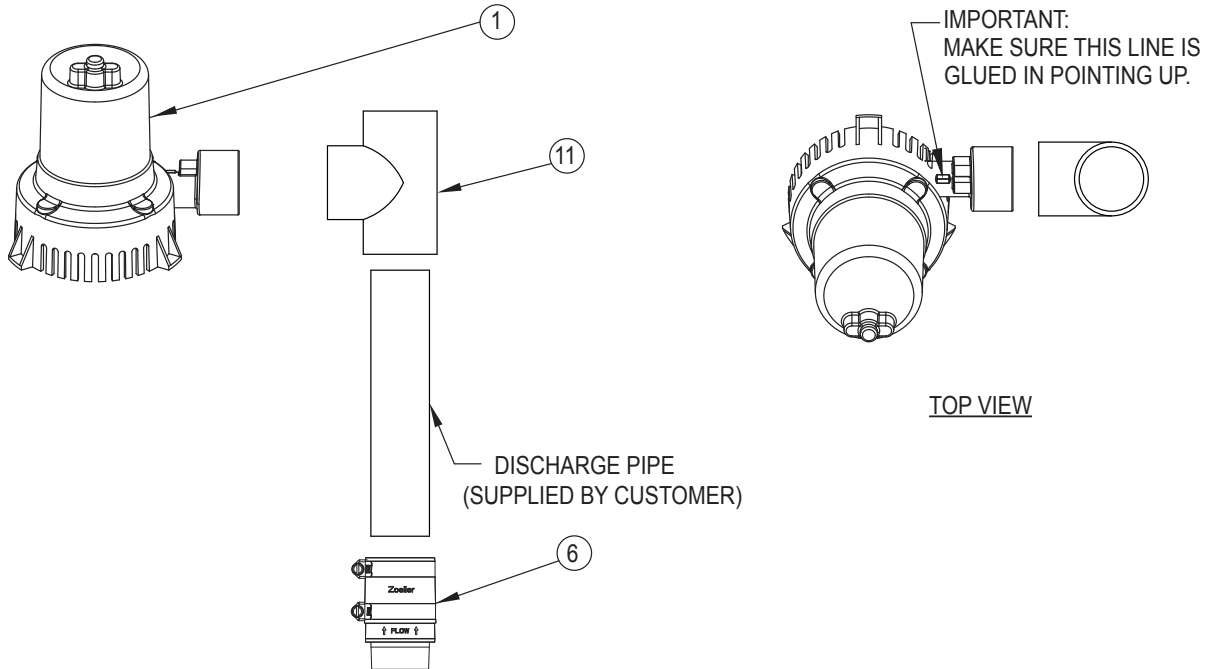

FIGURE 4
- Solvent weld DC pump to tee at a **30 degree angle** as shown in Figure 4.
- Determine the position of the DC pump and measure between the in-line check valve and tee. Use that measurement to cut discharge pipe. Solvent weld that piece first to the tee. Measure, cut & solvent weld any remaining discharge piping above the tee. Finally, connect the discharge pipe to the in-line check valve and tighten hose clamp. See Figure 4..